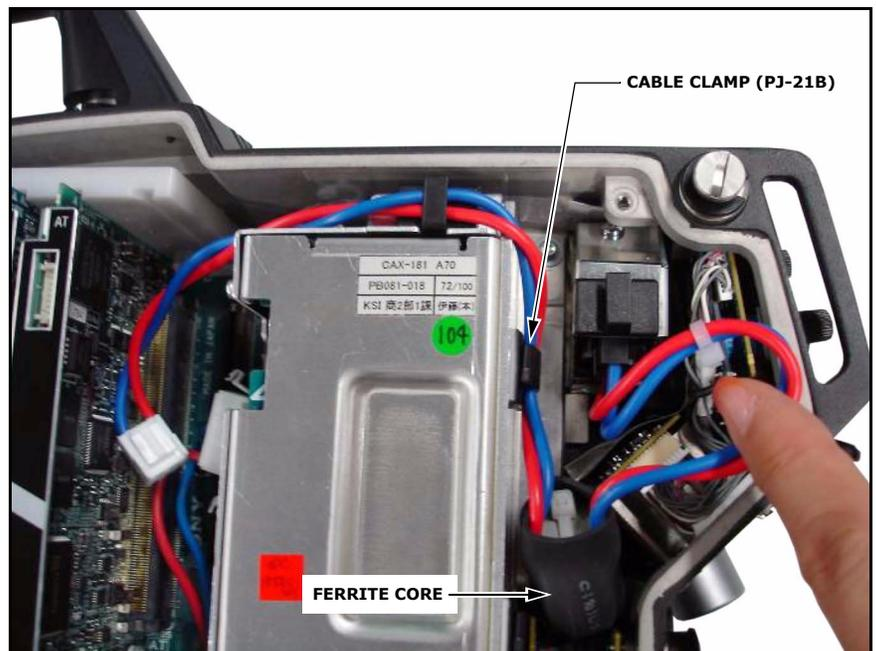

Figure 8
- c. Insert the ferrite core of the sub harness, and secure the sub harness with the new cable clamp (PJ-21B) as shown in Figure 8.